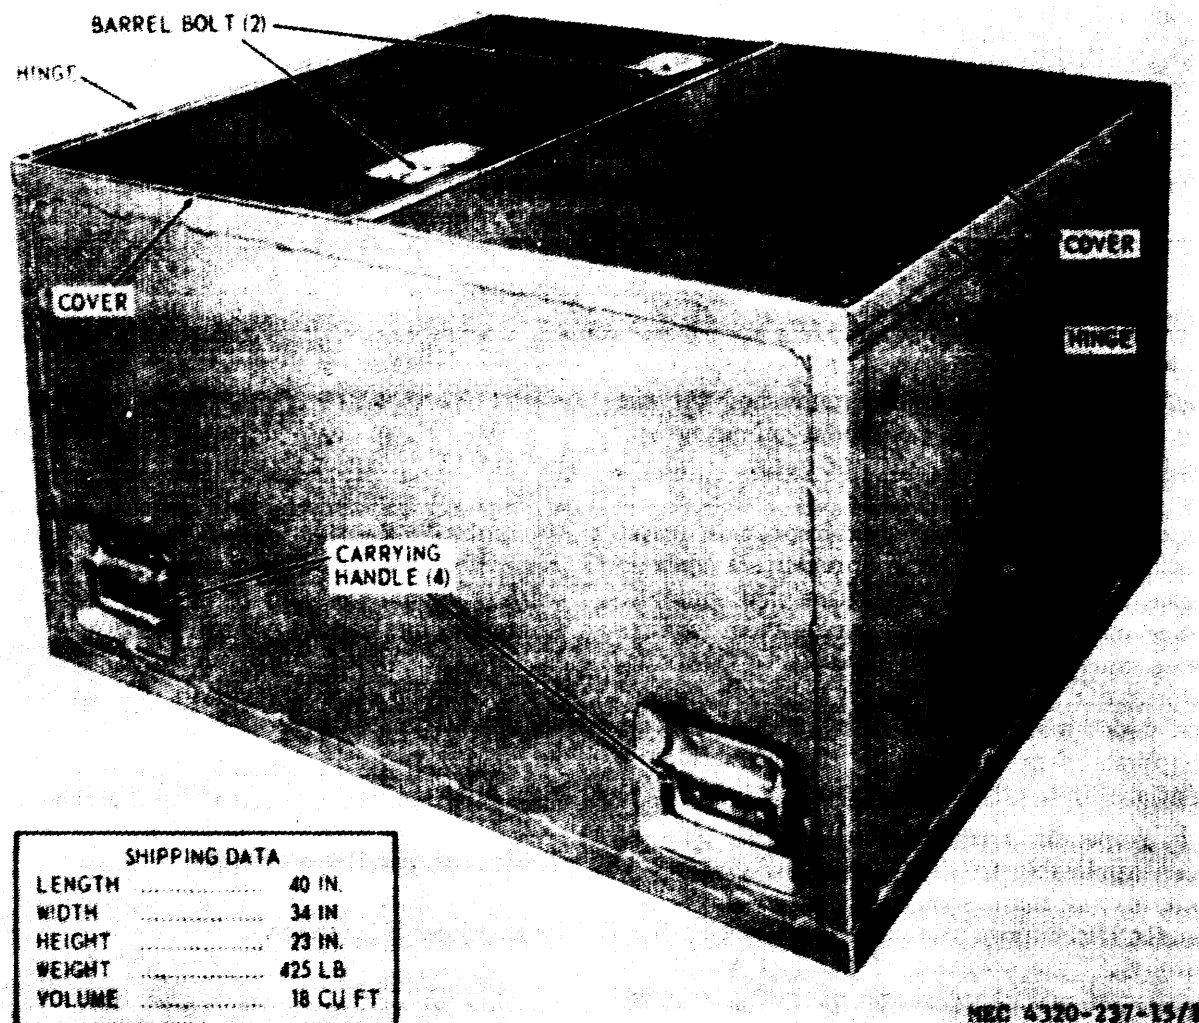
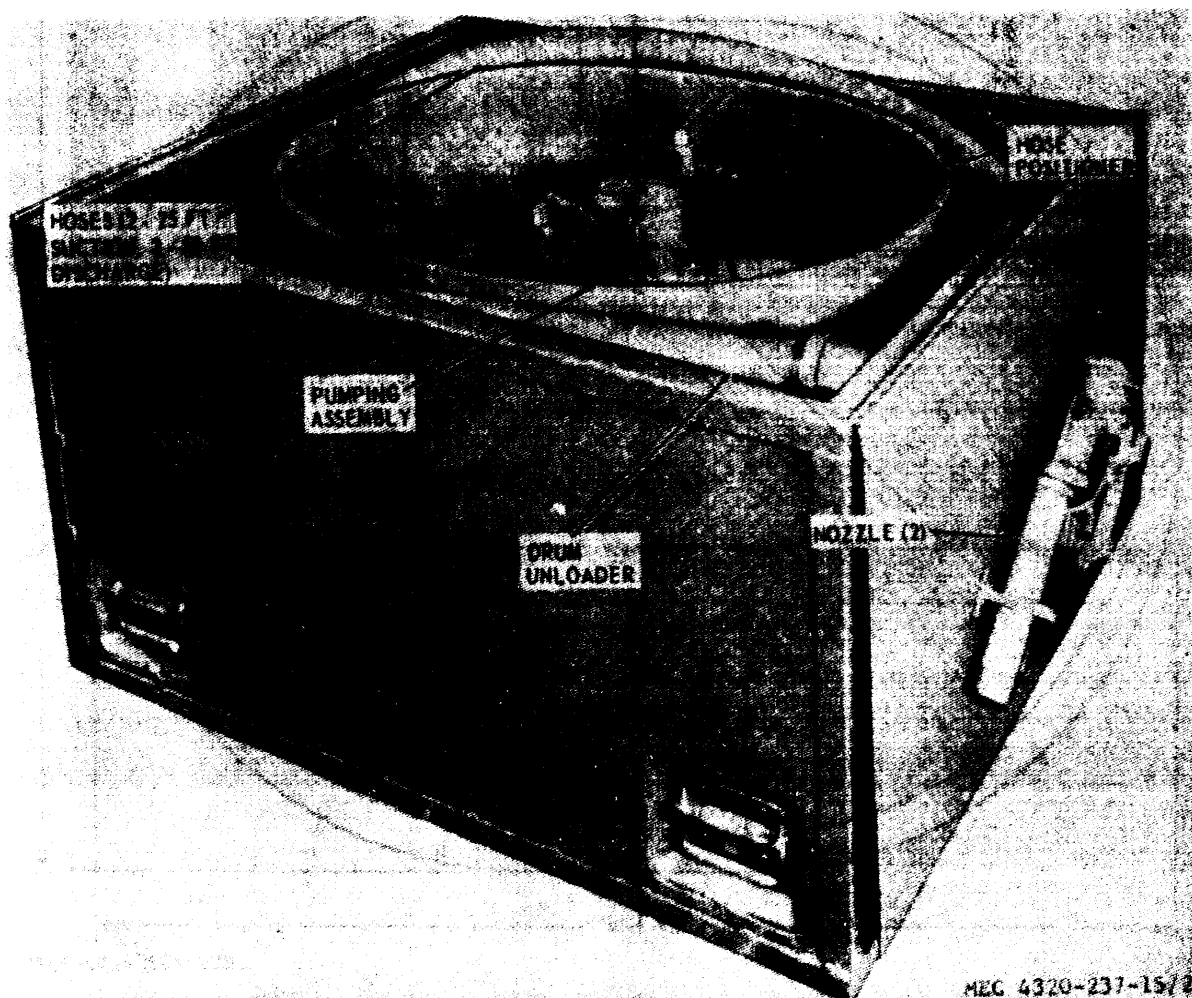

Figure 1. Carrying box for pumping assembly, model QM-2-28002, w/complete shipping dimensions, weight and volume.
Figure 2. pumping assembly, model QM-2-28002, box covers opened
a. *General* Pumping assembly, flammable liquid, 50 gpm, Barnes Model QM-2-28002, consists of a gasoline engine driven, centrifugal pump, mounted on a frame, and packed in a carrying box along with two servicing hoses, nozzles, suction hoses, and a drum unloader. Figure 1 shows the unit completely packed in its box and provides shipping dimensions for the assembly. Figure 2 shows